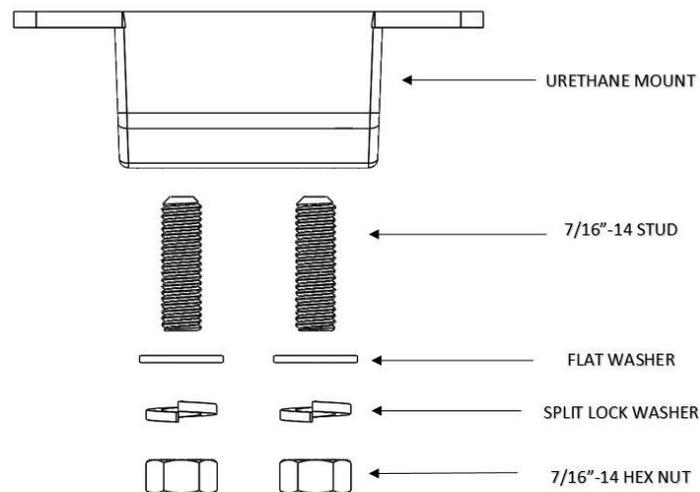

Figure 1
2. Install the mount onto the crossmember with hardware provided (shown in **Figure 1**). Do not tighten the hex nuts at this time.